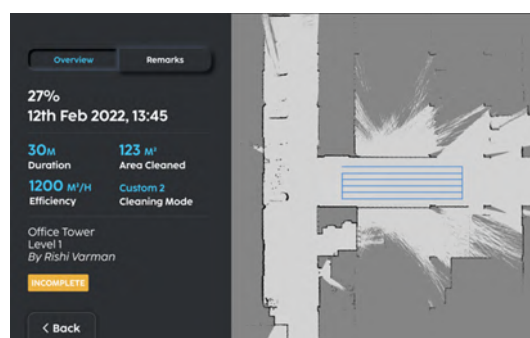

FIGURE 6-10
5. A cleaning report is generated after the cleaning mission is completed (**Fig. 6-10**).